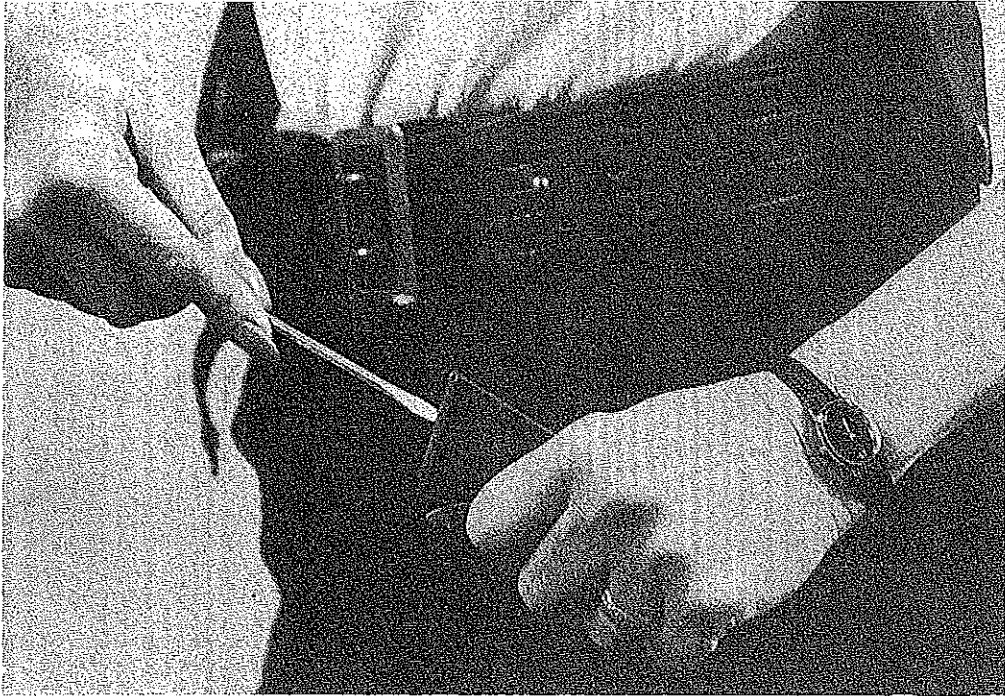

FIGURE 12
2. With a pen, small screwdriver, etc., push in on the retainer pin at the center of the floor plate. (Figure 12)